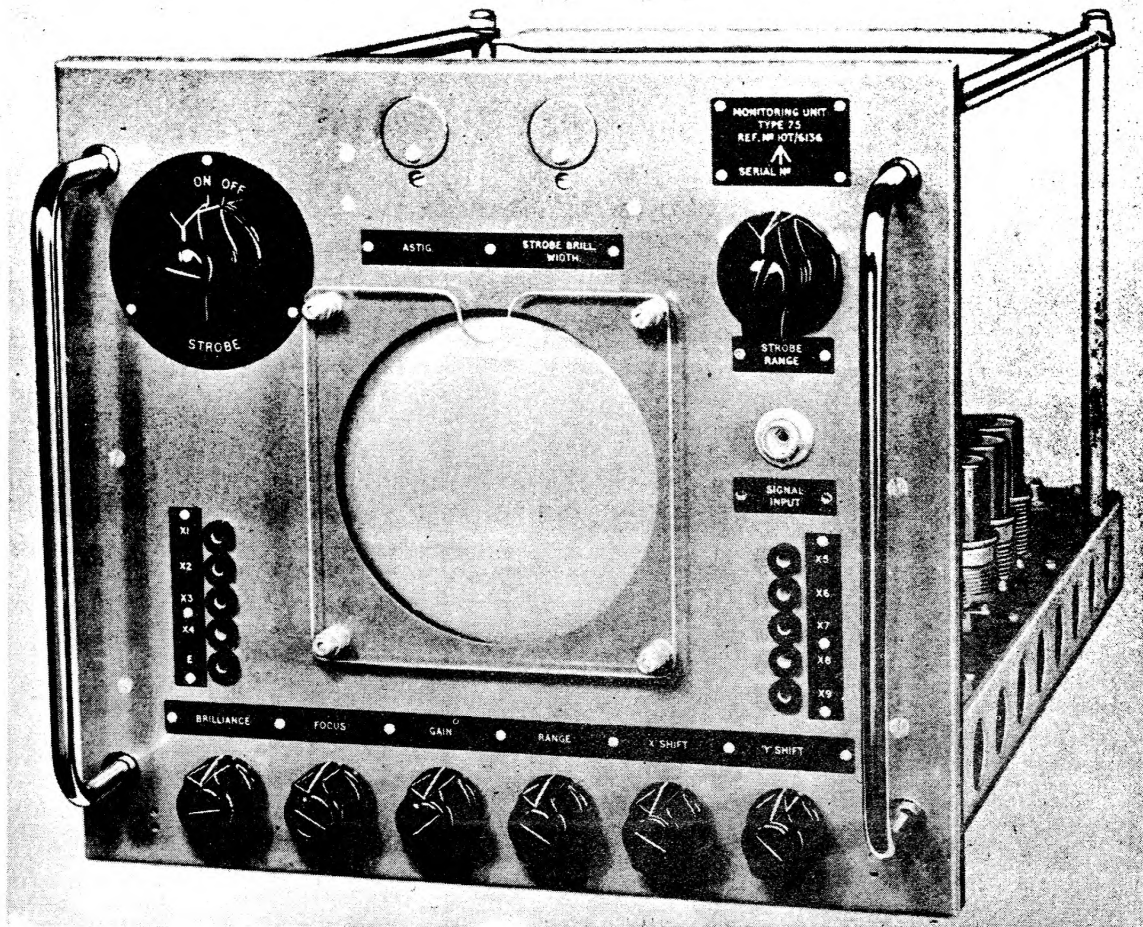
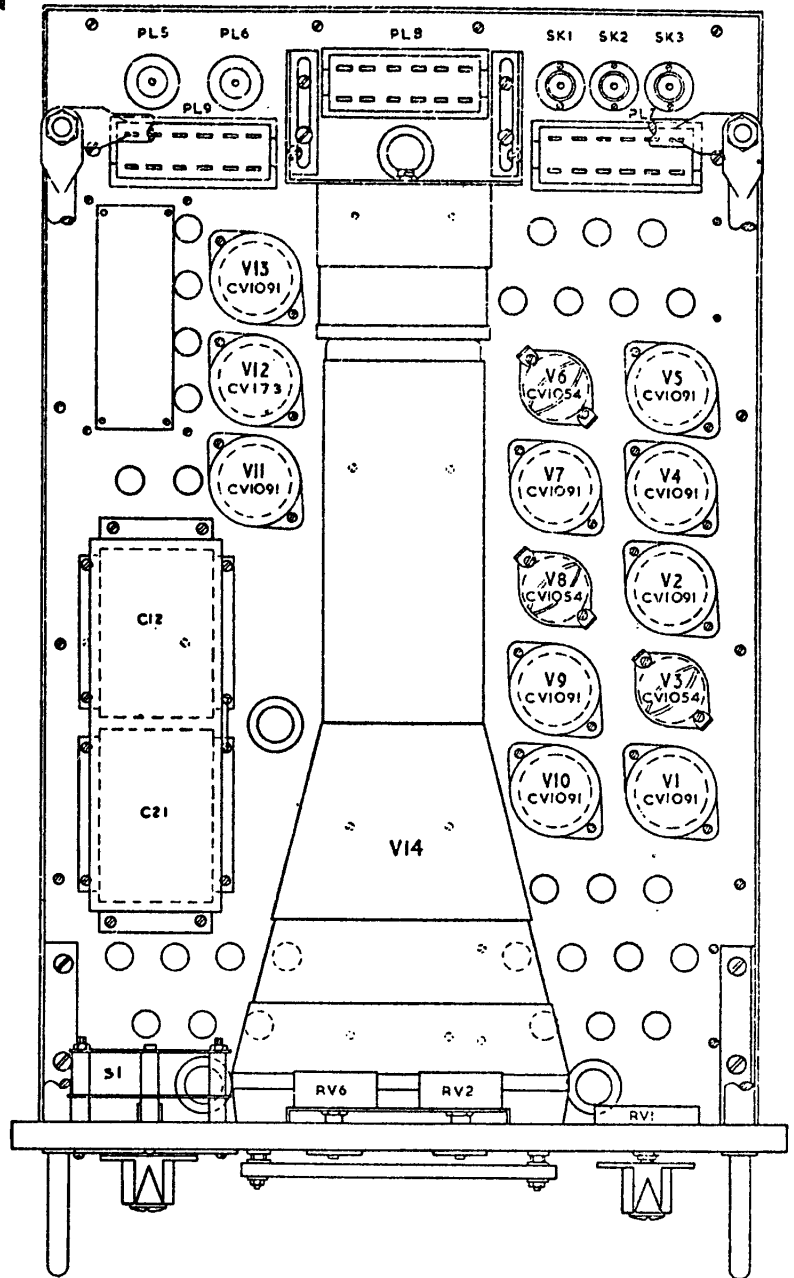

Fig. 1. Monitoring unit Type 75, front panel
Fig. 2. Monitoring unit Type 75, plan
8. The monitoring unit Type 75 (Stores Ref. 10T/6136) consists of a 6-inch range deflection CRT which displays one or two timebases as an A-scan. It is used primarily as a monitor to assist in setting-up the remaining circuits of the IG by observation of their various waveforms. It can also be used to observe the signal/noise ratios of echoes. A front panel view of the unit is shown in fig. 1. Plan and under-chassis views are given in fig. 2 and 3. As the component boards are sign-written, only certain unidentified components are annotated on the latter diagram. Fig. 4 is a circuit diagram. A block diagram and waveforms are shown in fig. 5 and 6.